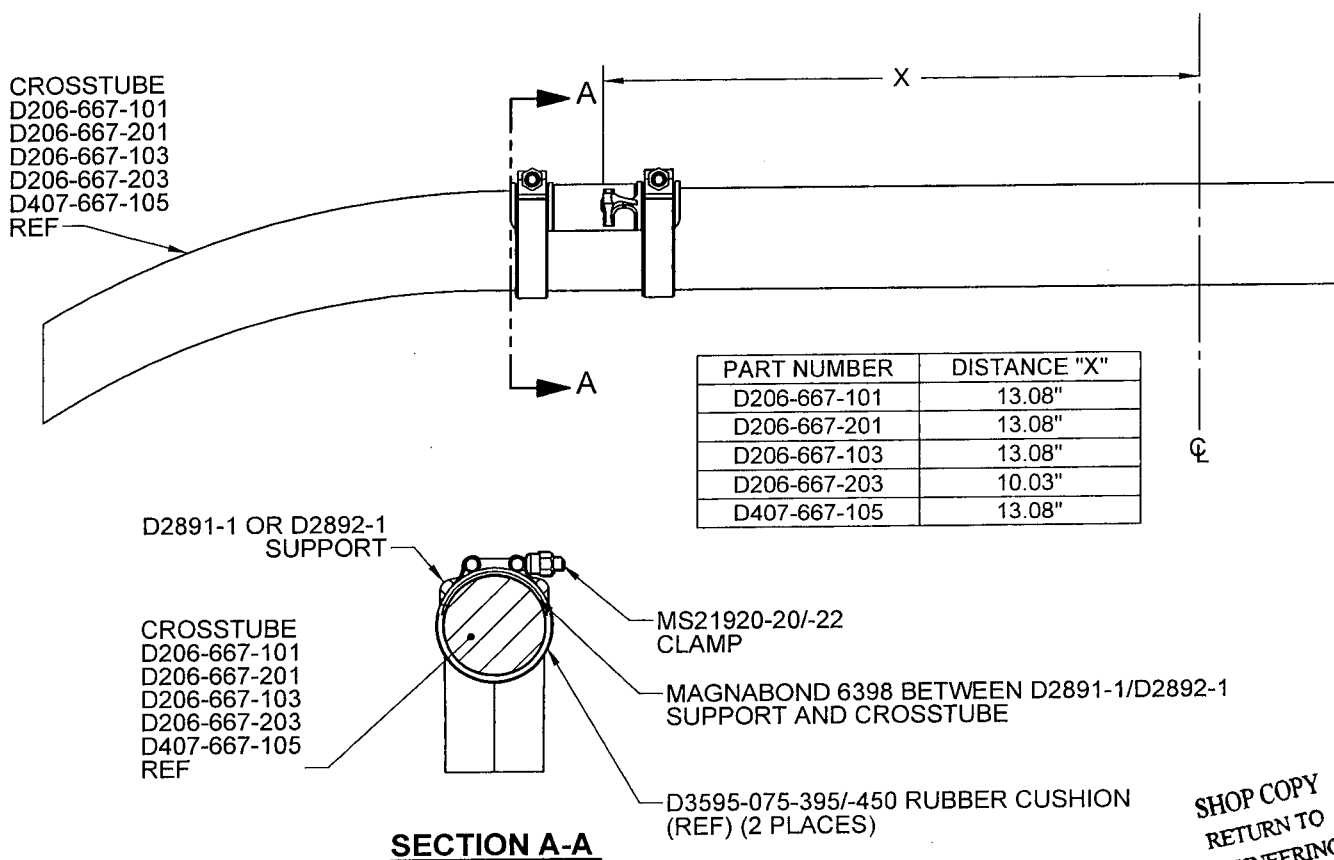

FIGURE 1 - CROSSTUBE SUPPORT
- Remove the qty (2) MS21920-20/-22 clamps from the crosstube that fasten the D2891-1/D2892-1 supports to the crosstube.
- Inspect the crosstube surface underneath the support for corrosion and mechanical damage per items 5.3.1 and 5.3.2 of the 300 hour inspection of ICA-D206-667. Repair damage within acceptable limits per item 5.3.3 of the 300 hour inspection in ICA-D206-667. Touch up finish per item 5.3.9 of the 300 hour inspection.
- Apply a 0.03" to 0.06" thick layer of Magnabond 6398 underneath the D2891-1/D2892-1 support and re-install the support on the crosstube as shown in Figure 1. Position and secure the D2891-1/D2892-1 support on the crosstube using MS21920-20/-22 Clamps. Install a D3595-075-395/-450 Rubber cushion underneath each MS21920-20/-22 Clamp. Torque clamps 80-100 in-lb. Let the D206-667-101/-201/-103/-203 or D412-667-105 crosstube assembly cure as per the Magnabond 6398 instructions before re-installing the crosstube on the aircraft.